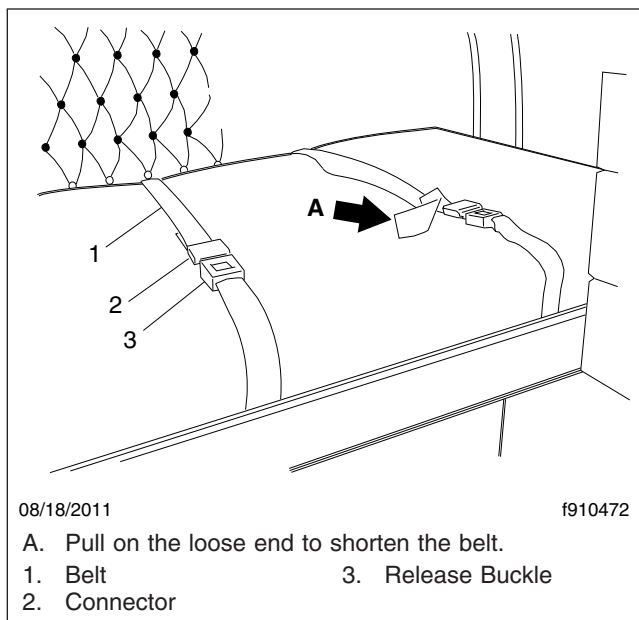

Fig. 6.13, Bunk Restraint Adjustment
3. After the belt is connected, shorten it by pulling on the loose end until the belt is snug, but comfortable. Be sure the belts are not twisted. See Fig. 6.13.